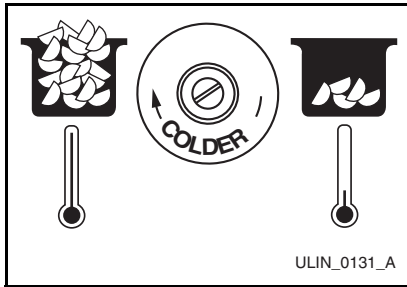

Figure 2
2. Turn the adjusting screw (**Figure 2**) using a flat tip screwdriver in a small increment clockwise for a COLDER setting (slower ice production) or counterclockwise for a WARMER setting (faster ice production).